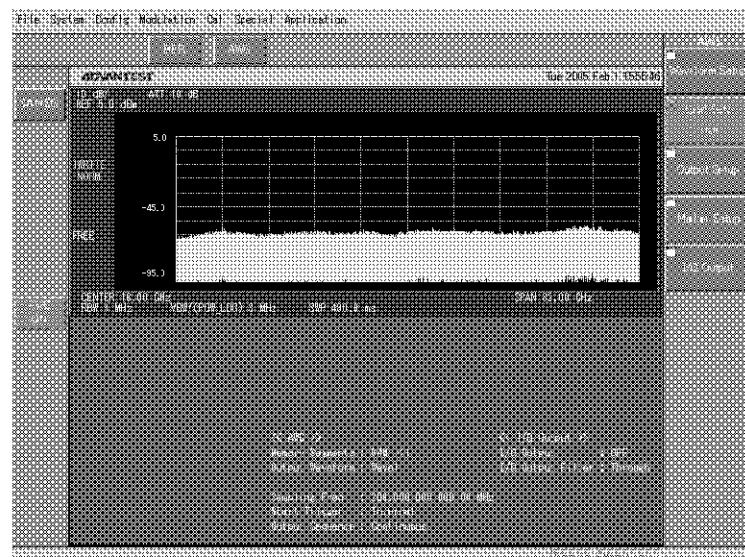

Figure 3-9 AWG Initial Setting Screen
6. Touch the **[Config]** button on the menu bar and select **[AWG Option]** on the drop down menu. The screen shown in Figure 3-9 will be displayed.
Depending on the state of setting when the power supply was turned off last time, the display screen may differ from Figure 3-9.